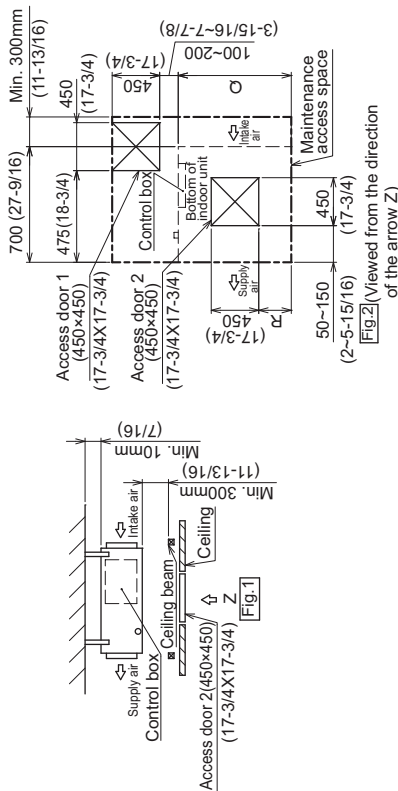
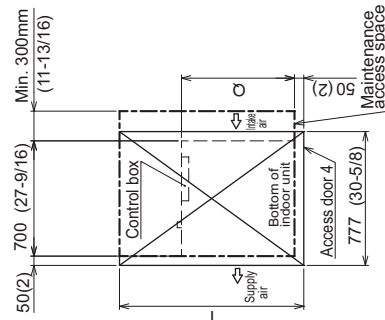

Fig.2 (Viewed from the direction of the arrow Z)
Fig.3 (Viewed from the direction of the arrow Y)
- (1) When a space of 300mm or more is available below the unit between the unit and the ceiling,
- Create access door 1 and 2 (450x450mm each) as shown in Fig.2.
- (2) When a space of less than 300mm is available below the unit between the unit and the ceiling.
- (At least 20mm of space should be left below the unit as shown in Fig.3.)